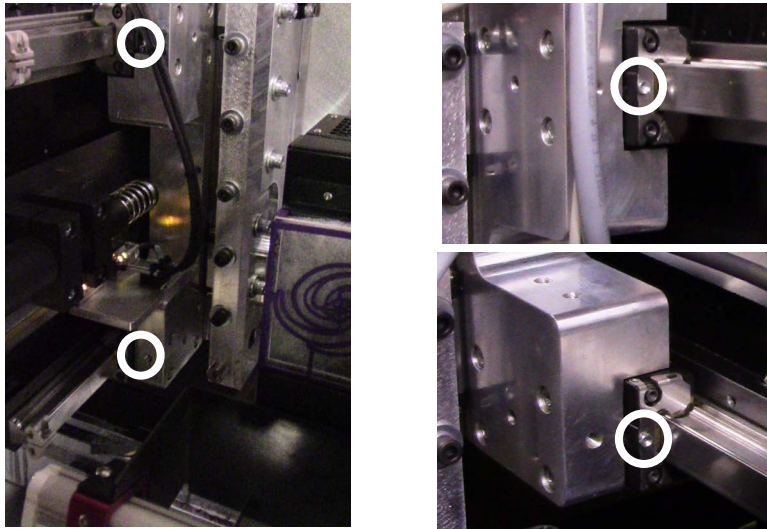

Figure 6-29 Carriage bearings, Left and Right sides, respectively, with detail
2. Insert needle into grease fitting at carriage bearing ends, Figure 6-29.